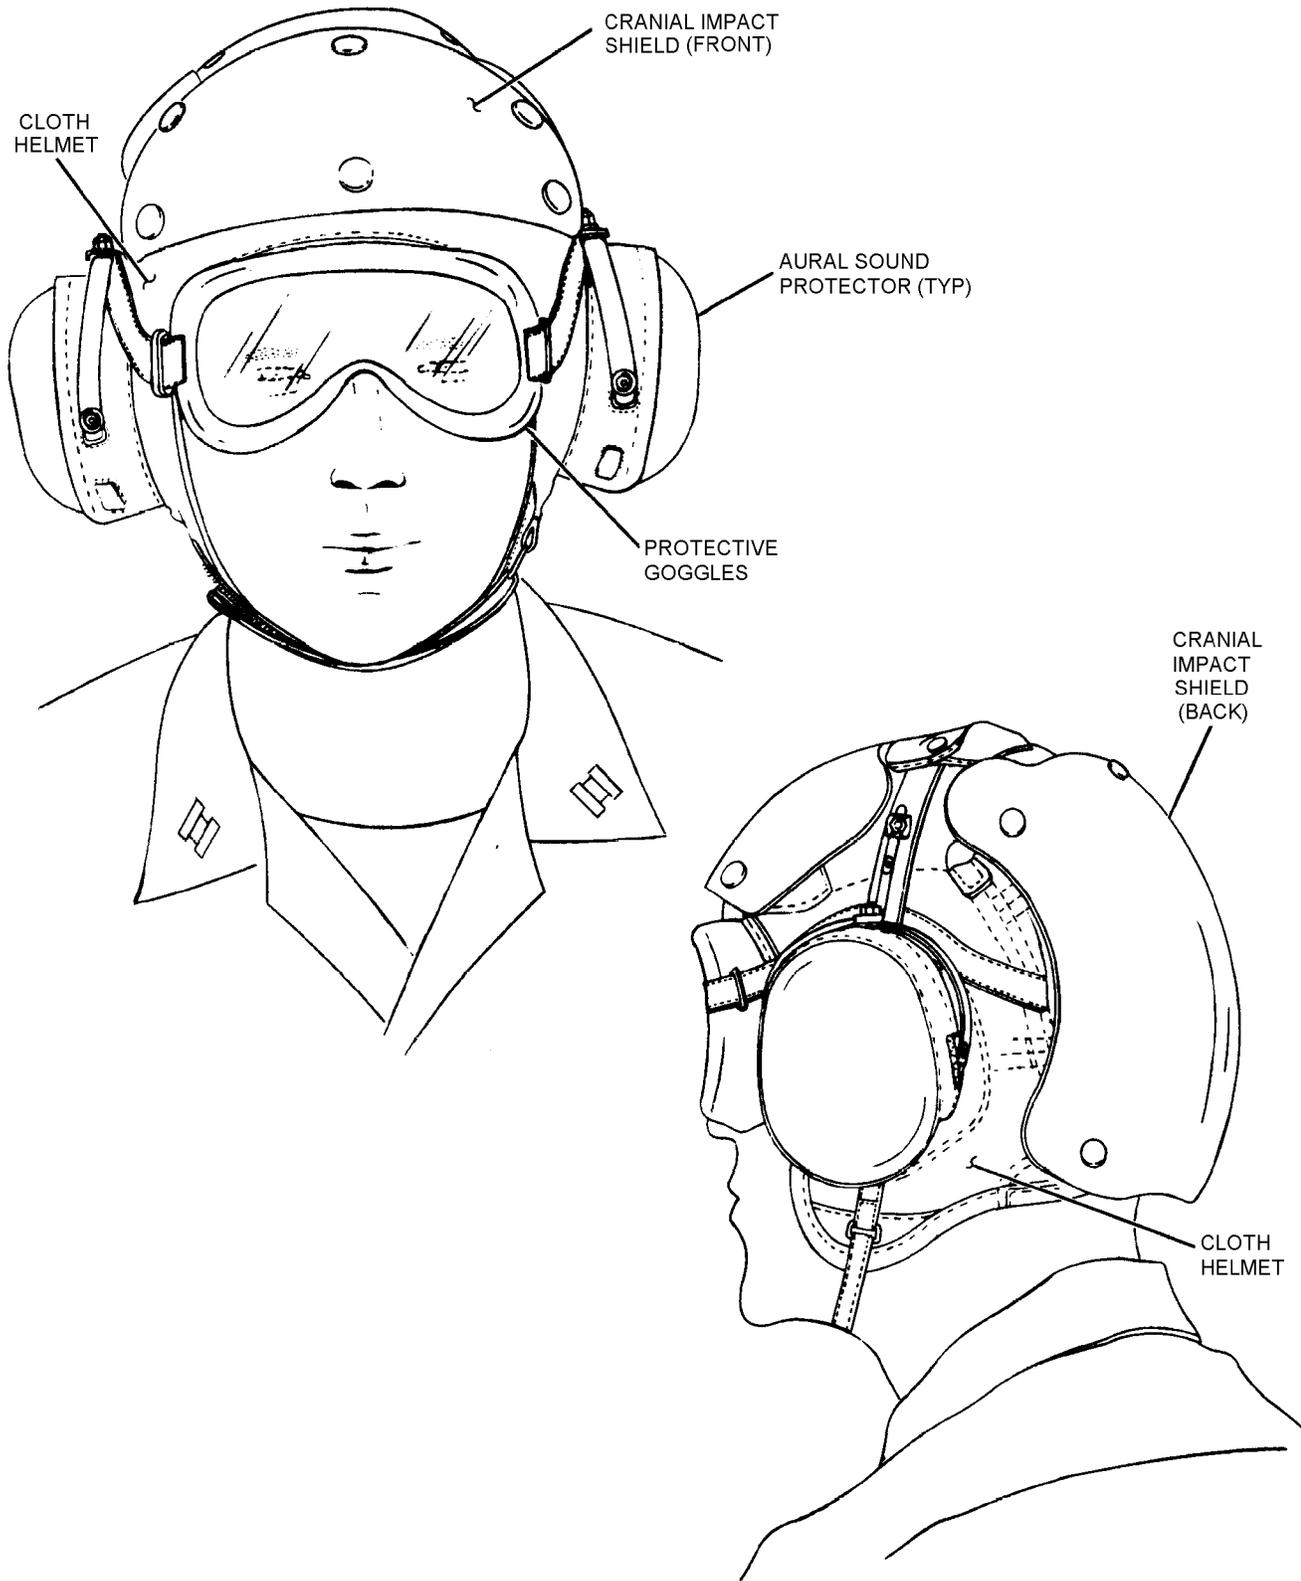

Figure 7-2. HGU-25(V)2/P Helmet Assembly
**7-6. HGU-25(V)2/P HELMET ASSEMBLY.** The HGU-25(V)2/P sound attenuating protective helmet is comprised of the same components as the HGU-24/P with the exception that in place of the sound powered microphone and head set assembly, the HGU-24/P utilizes a 372-9AN2 aural protector. Standard flight deck protective goggles are compatible for wear with this model. These cloth helmet assemblies use only white front and back cranial shields. See figure 7-2.